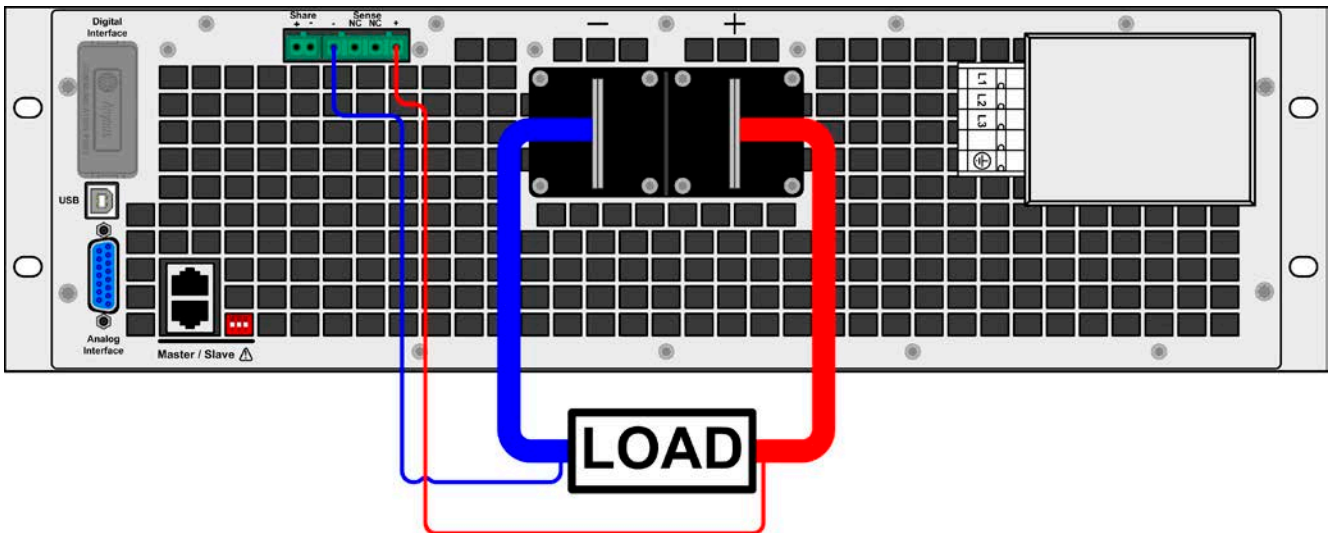

Figure 10 - Example for remote sensing wiring
- Remote sensing is only effective during constant voltage operation (CV) and for other regulation modes the sense input should be disconnected, if possible, because connecting it generally increases the oscillation tendency
- The + sense cables must be connected to + on the load and - sense to - at the load, otherwise the sense input of the power supply can be damaged. For an example see *Figure 10* below.